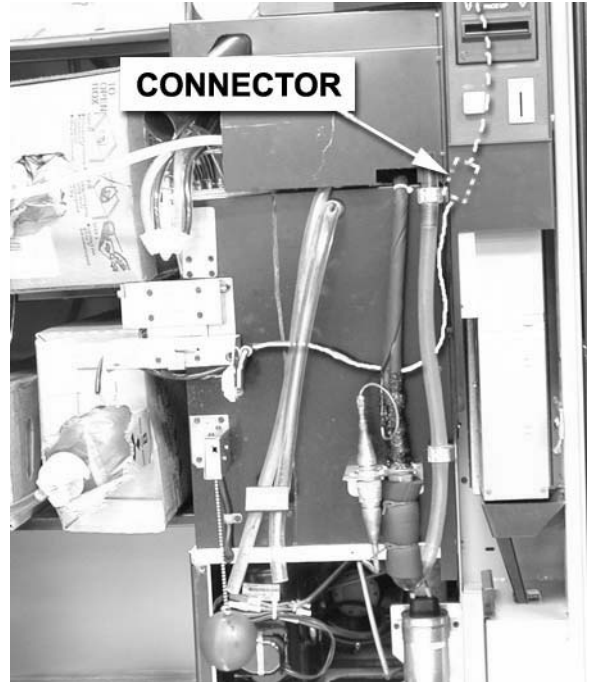

Figure 6
- c. The harness (6559010) from the sensor bracket assembly is shown routed next to the water bath and up the side of the monetary panel and connected to the 6559011 harness behind the monetary panel (See Figure 6).